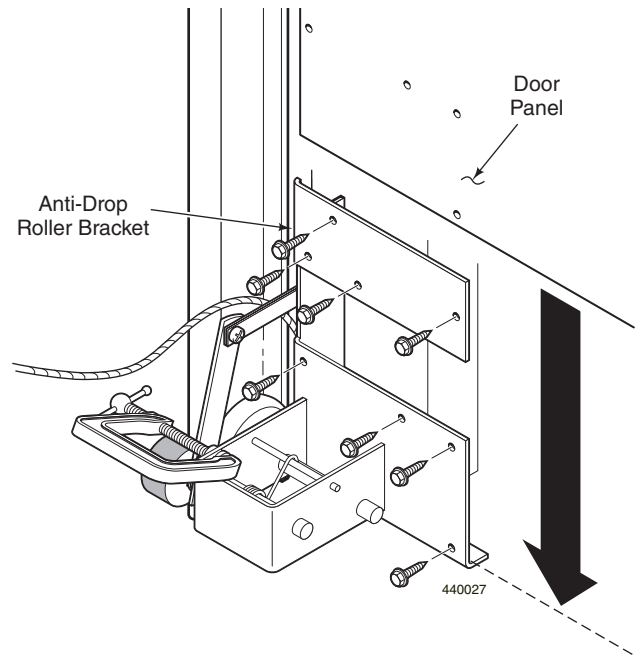

Figure 20
6. Lower the Door Panel into the Anti-Drop Roller Brackets. Do not pinch or trap the Lift Cables out of position. Refasten the Roller Brackets to the Door Section. Leave the Cam Brake clamped or wired open. See Figure 20.